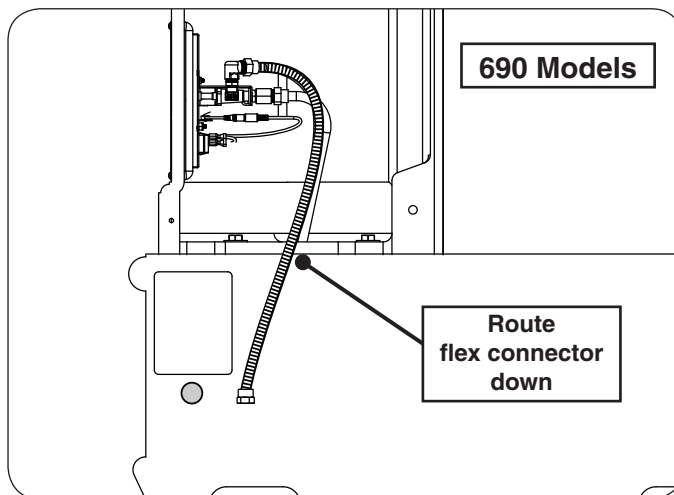

Fig. 22-1 Route flex connector down into hearth
1. Locate the flex connector that is already installed on the rear of the valve assembly. Route it down through the hole in the hearth. See Fig. 22-1.